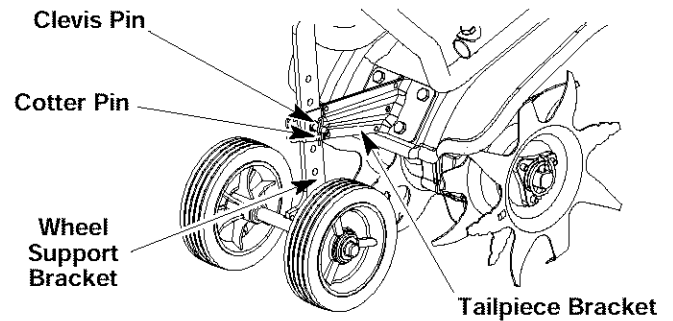

Fig. 3
2. Remove cotter pin from the clevis pin and slide pin out of tailpiece bracket (Fig. 3).